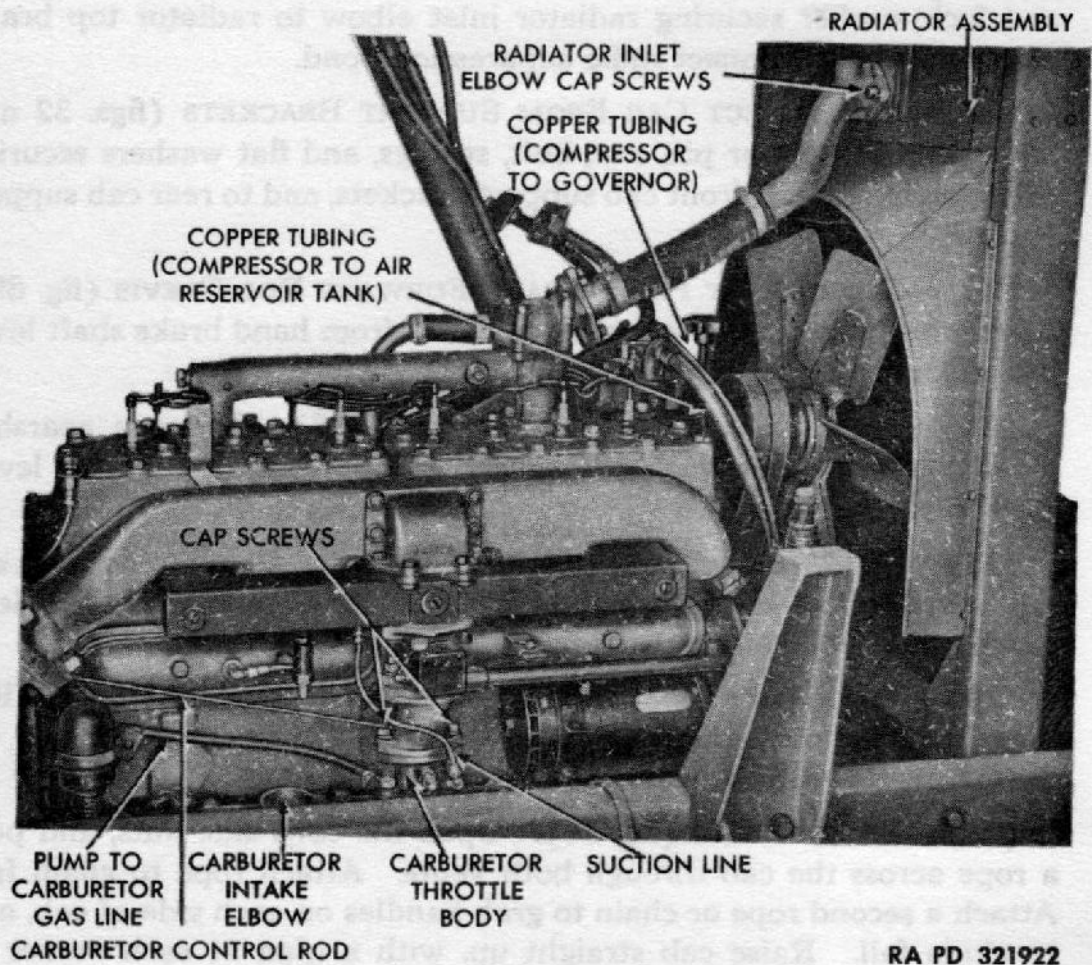
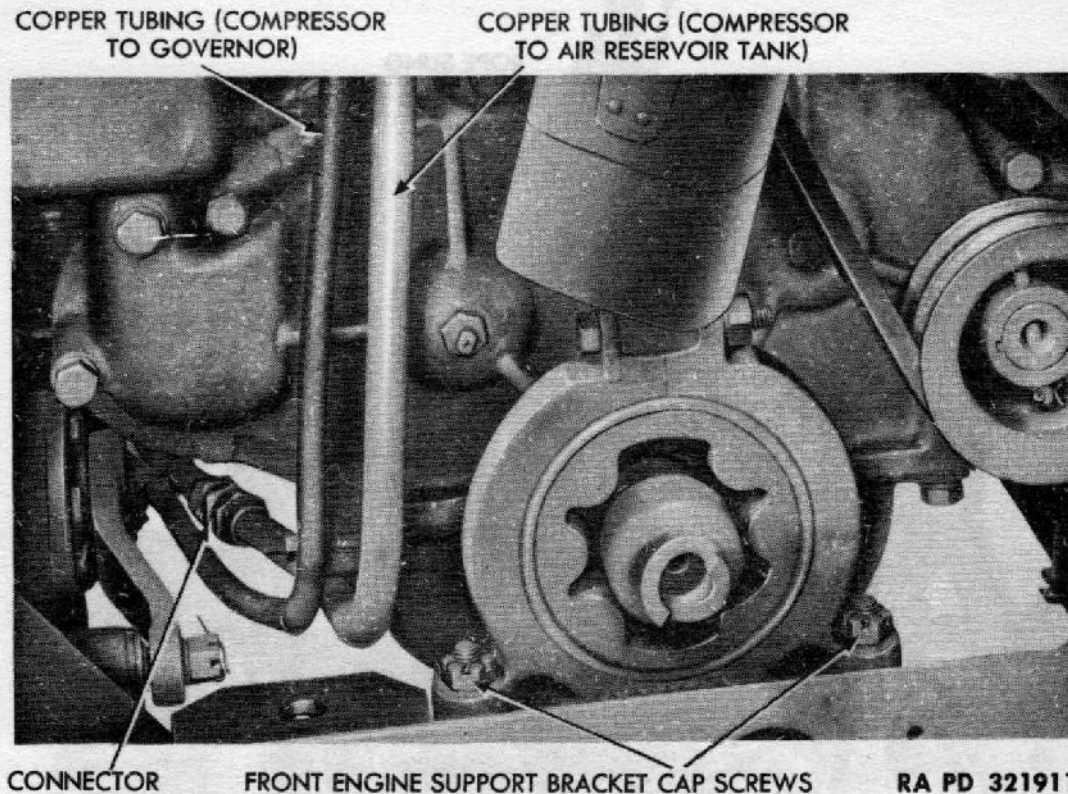

Figure 36 - Engine Installed - Right Side View
Figure 37 — Engine Installed — Front View
g. Remove Radiator (fig. 36). Follow procedure in paragraph 74 b. Pull top of radiator forward, and lift up until studs are out of radiator support brackets. Lift off radiator.
j. **Remove Engine Mountings** (fig. 37). Remove cotter pins, nuts, and washers from left-hand and right-hand rear engine support cap screws. Remove cotter pins and nuts from front engine support bracket cap screws. Remove cap screws and washers.
l. **Disconnect Copper Tubing** (fig. 37). Disconnect copper tubing (compressor to air reservoir tank) at union located between right
side of engine and right-hand frame rail (fig. 37). Remove tubing clip securing tubing (compressor to governor) to lower right-hand corner of engine (fig. 37). Disconnect upper end of tubing from compressor. Bend tubing away from engine.
d. **Connect Copper Tubing (fig. 37).** Remove rope sling. Connect upper end of tubing (compressor to governor) to compressor (fig. 36). Connect copper tubing (compressor to air reservoir tank) at union located between right side of engine and right-hand frame rail (fig. 37). Install tubing clip securing tubing (compressor to governor) to lower right-hand corner of engine (fig. 37).